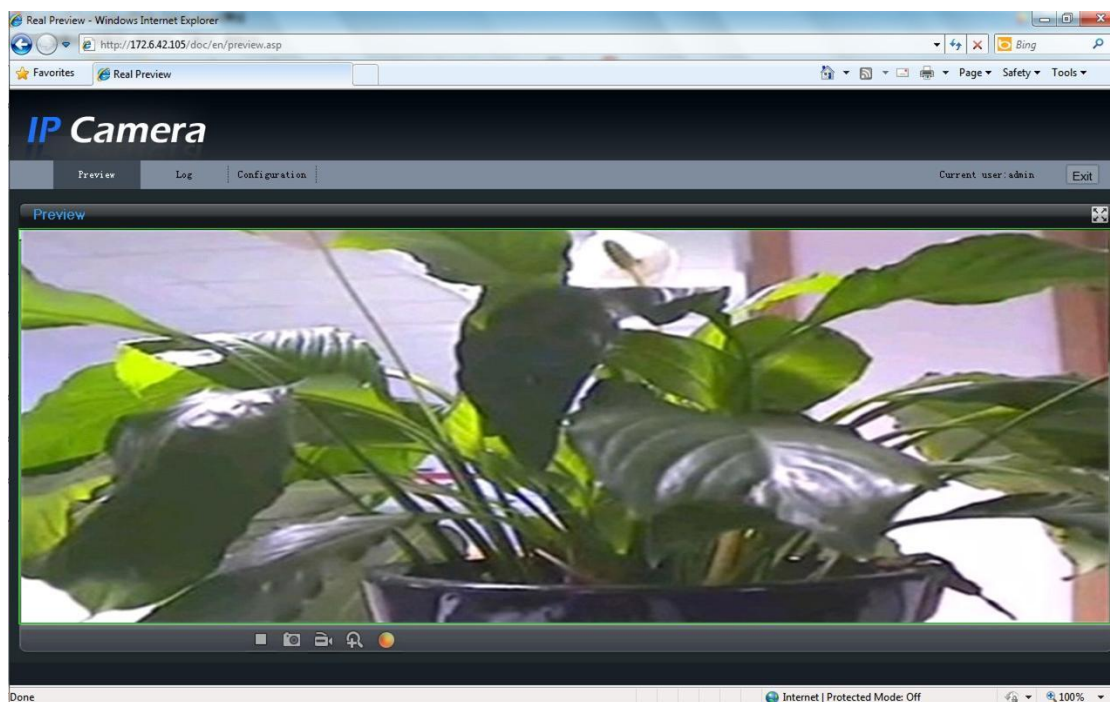

Fig. 2.1.4 Live View Page
Step 3: After successful login, user is allowed to view the live video. Refer to Figure 2.1.4.